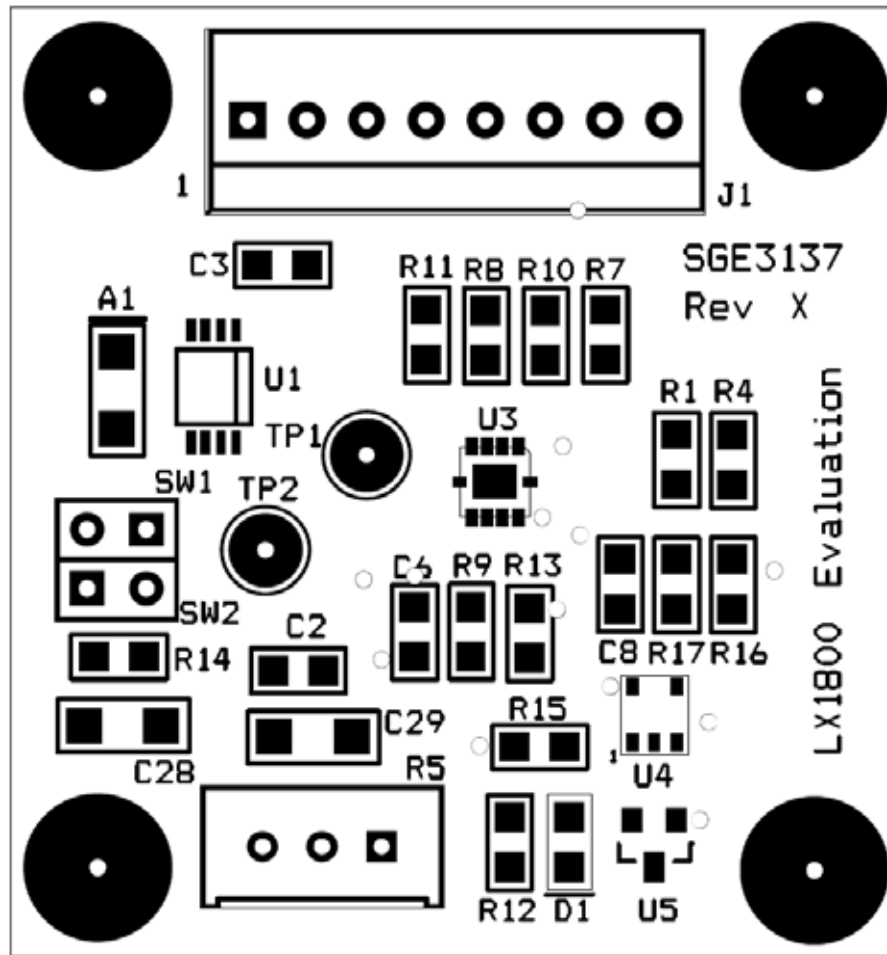

Figure 3 - LX1800 Evaluation Board Layout
**PCB Layout:** The LX1800 Eval board layout is shown in Figure 3. The LX1800 is sensitive to noise at the reference pin so this node should be a low impedance path to ground for high frequency noise. As a precaution, the REF node should be routed away from digital switching traces. The  $V_{DD}$  Pin should be decoupled to ground with a  $0.1\mu\text{F}$  ceramic capacitor located in close proximity to the IC.